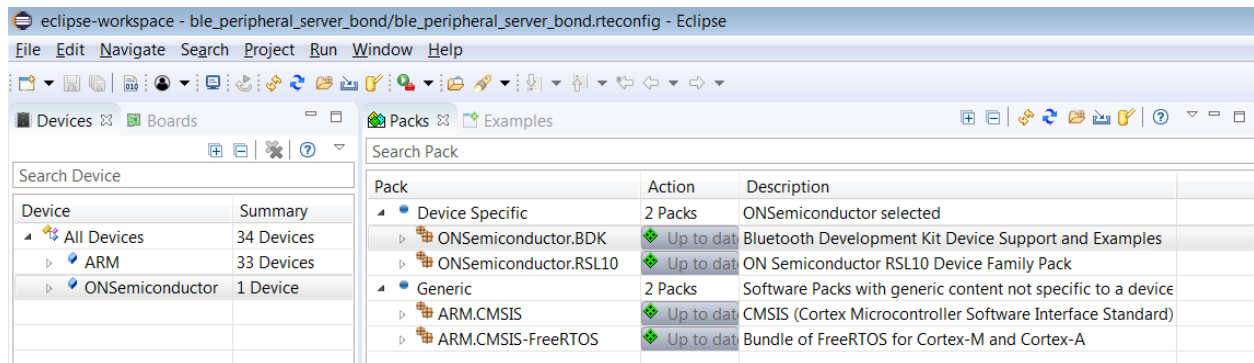

Figure 7.
3. Once all packs are successfully imported, they can be viewed in the CMSIS pack manager perspective as shown below (Figure 7)